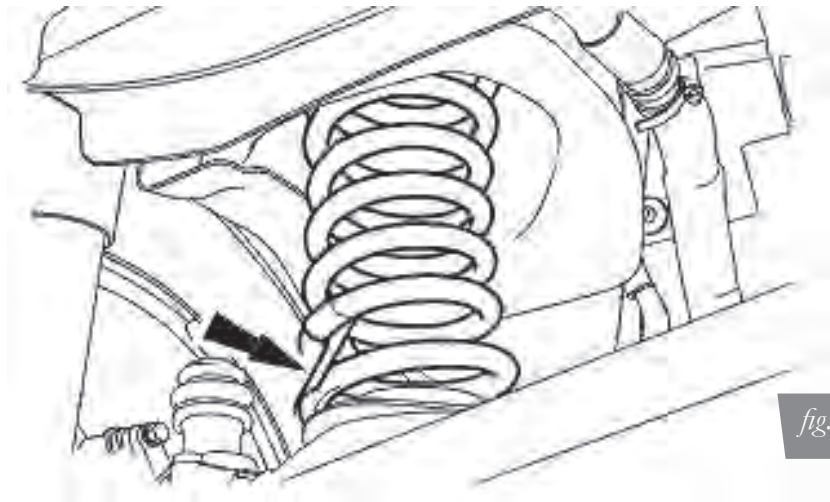

fig. 5
5. Remove the coil spring and rubber isolators (Fig. 5).